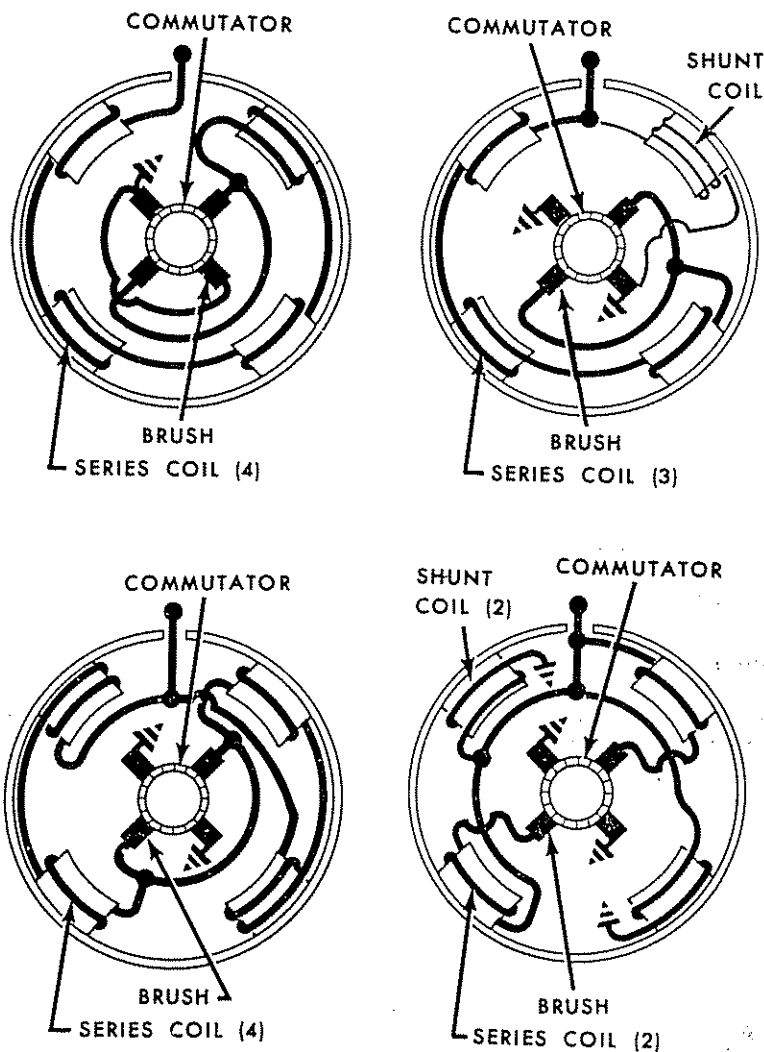

Figure 5—Typical motor circuits.
- C. **Field Coils**—The field coils should be checked for grounds and opens using a test lamp. Typical circuits are shown in Figure 5.